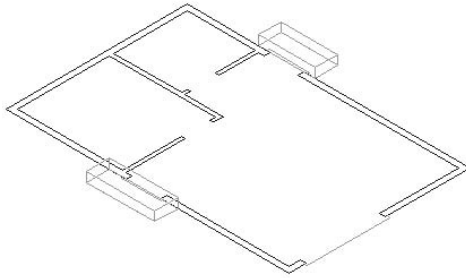

FIGURE A.16: The front and back steps as 3D solids
3. Use the Box command to make a 10"-high box for the front and back steps (see Figure A.16). If the screen doesn't display what is illustrated in Figure A.16 or what you expect, choose View > Regen.